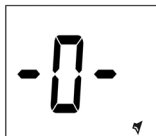

Figure 8
- Number 0 indicates that the speaking function is turned off. See Figure 8.